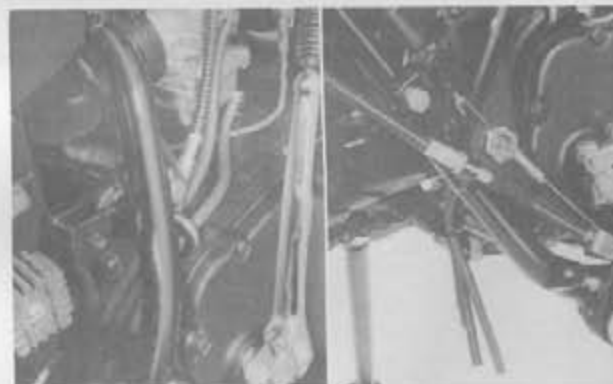

Fig. 4-6
② Wire harness
5. Route the pipes and tubes correctly as shown in Fig. 4-6.